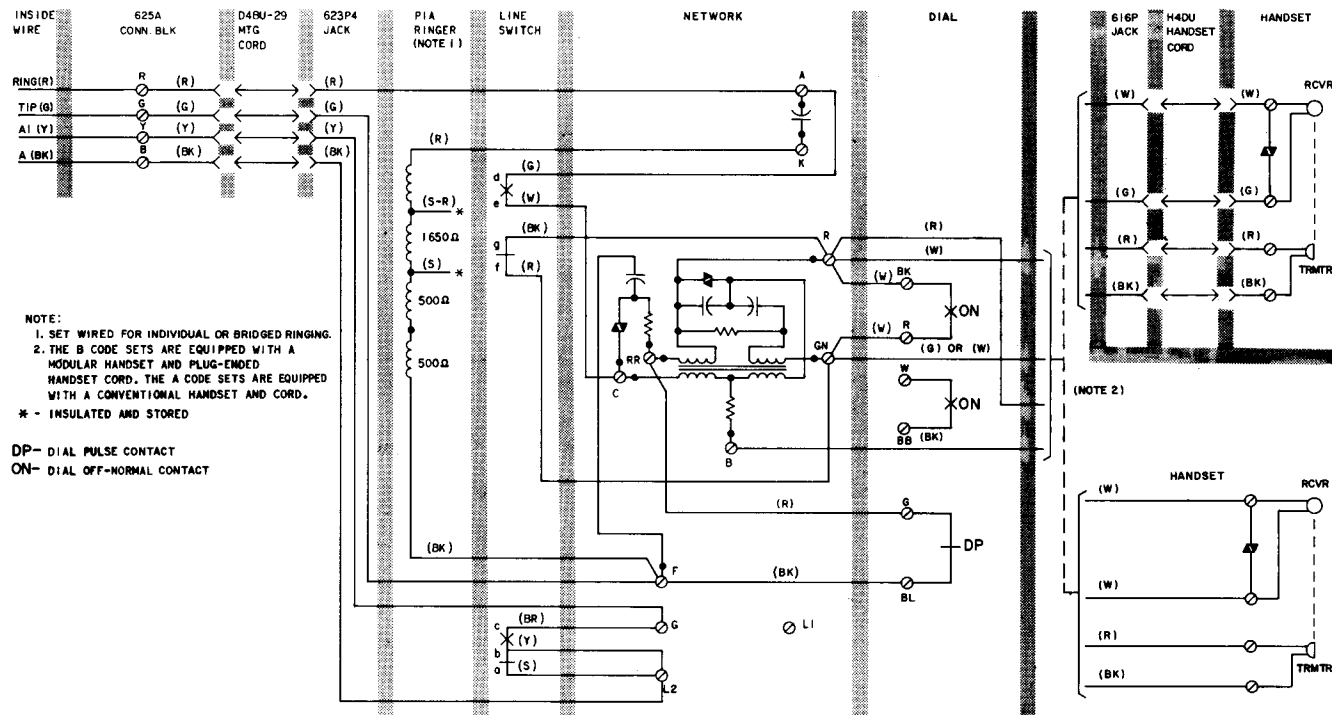
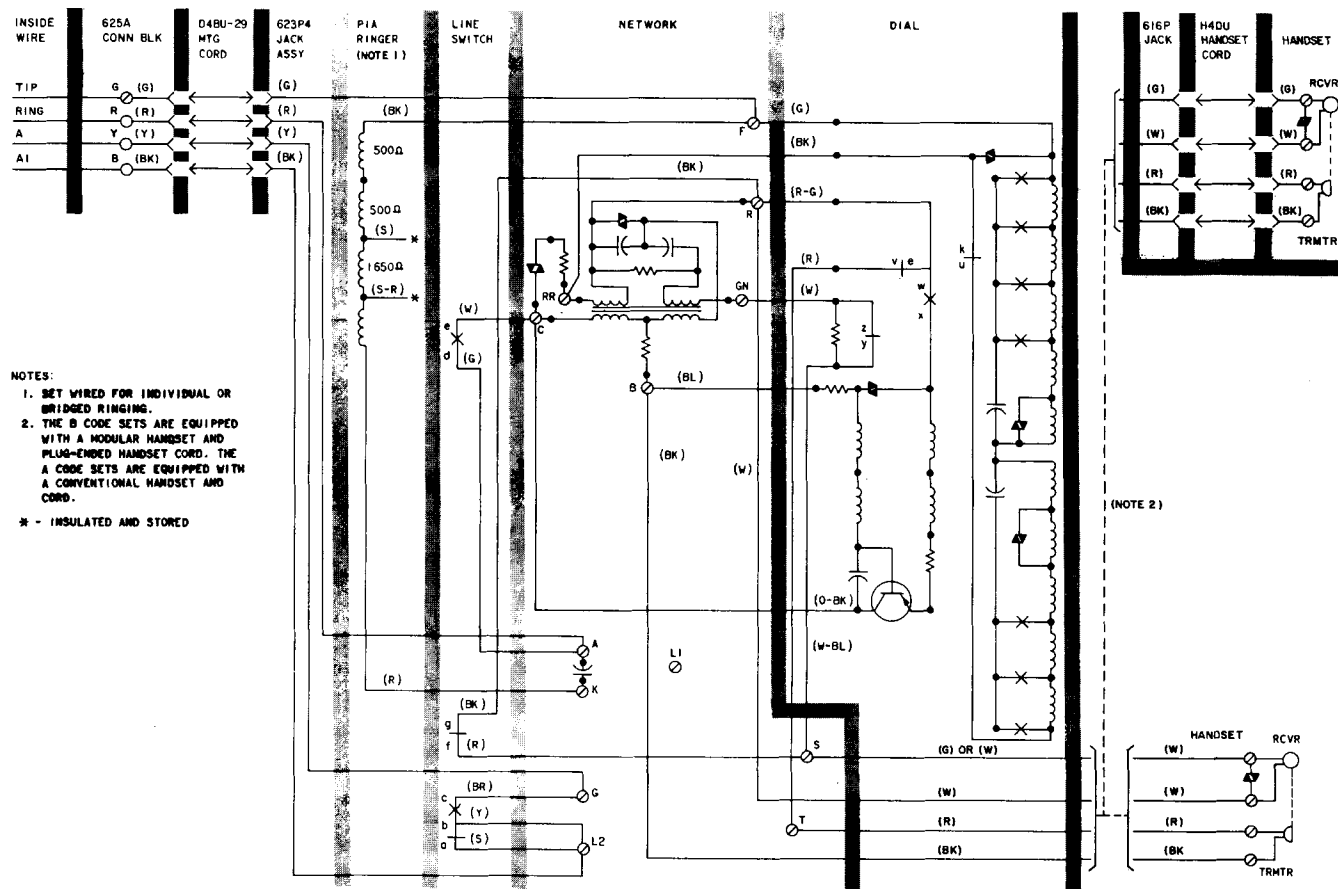

Fig. 15—881A100, 881B100, 881A101, 881B101, or 881B110 Telephone Set Wired for 1A1 or 1A2 KTS
Fig. 16—2881A100, 2881B100, 2881A101, 2881B101, or 2881B110 Telephone Set Wired for 1A1 or 1A2 KTS
**3.04** Connections for use with 1A1 or 1A2 KTS are shown in Fig. 15 and 17 for the rotary dial telephone sets and Fig. 16 and 18 for the TOUCH-TONE dial telephone sets. Table D includes necessary wiring modifications required for 1A1 or 1A2 key telephone system use.